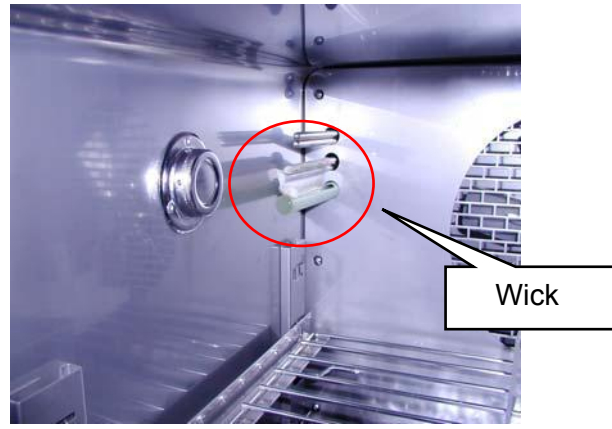

Fig.8
d. Do not put samples under wick because water will fall.(Fig.8)